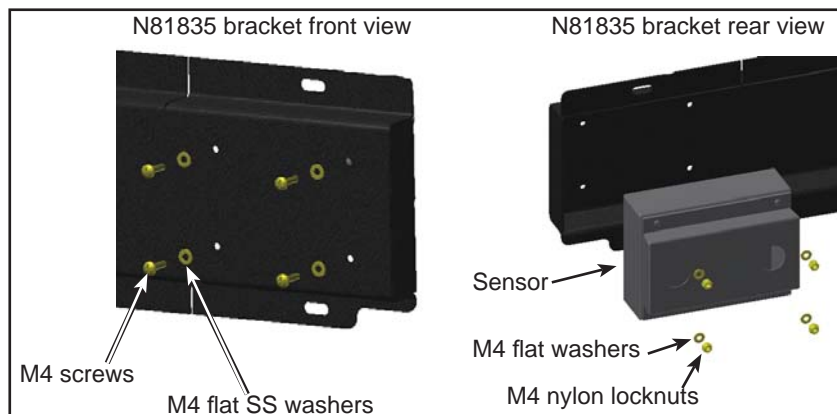

Figure 2 - Sensor Installation on the N81835 Bracket with Retained Hardware
- 1.6. Install the sensor on the N81835 bracket. The nuts must be installed inside the sensor housing. See Figure 2. Use the retained hardware.